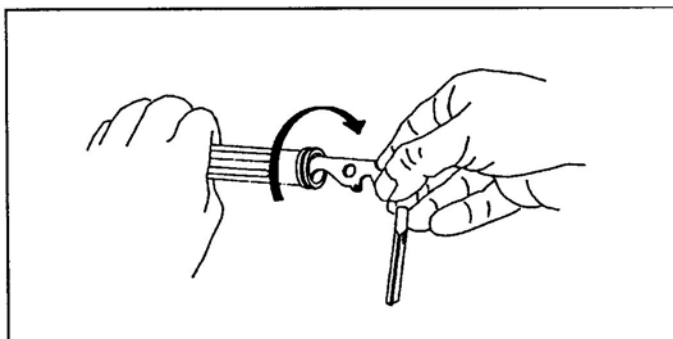

Figure 19. Cleaning of the gas cylinder's internal grooves.
- (2) Clean the internal grooves on the front side of the gas cylinder as previously described (using the protruding tips of the scraper), but insert the scraper farther into the gas cylinder (Figure 19).